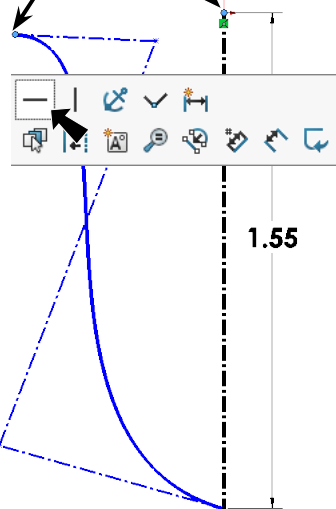

Fig. 4
Step 10. **Ctrl click top endpoint of Spline and Origin**  to select both. Release Ctrl key and click and click **Make Horizontal**  on the context toolbar, Fig. 4.